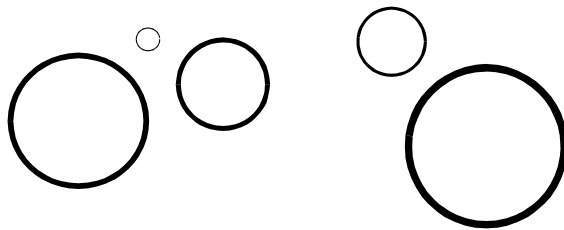
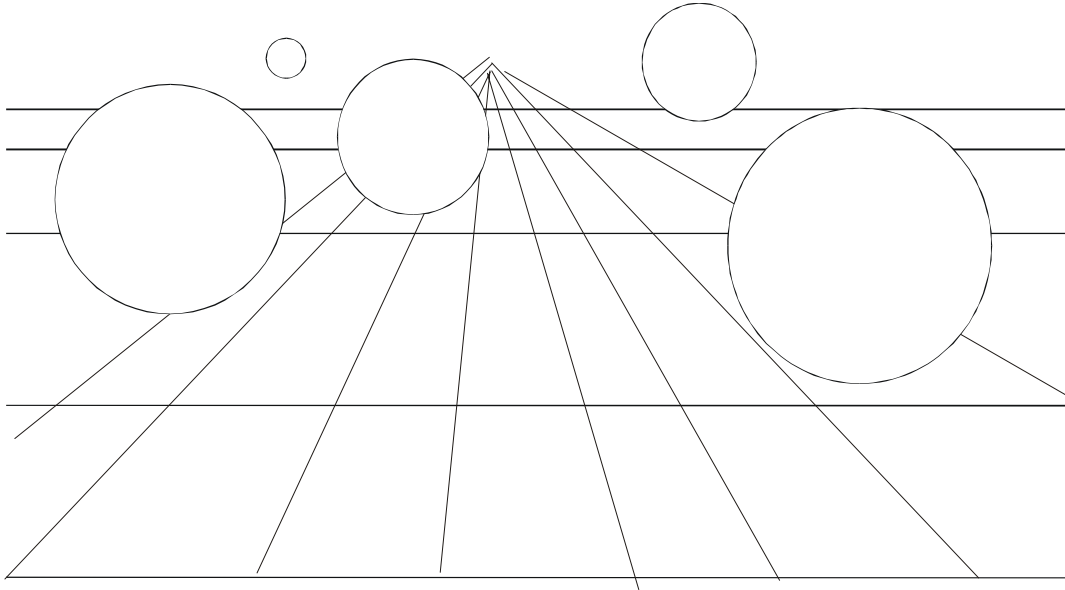

Figure C-1. A collection of different circles.
Figure C-2. Circles that project an illusion of depth.
(1) The most common example of relative size is a series of telephone poles. They are exactly the same size, yet they appear to get smaller the farther away they are from the viewer. When creating a realistic drawing of a series of identical objects, you need to forget that the objects are the same size and focus on their apparent sizes and positions relative to one another. Of course the context in which an object is seen also has a bearing on the illusion of depth. In Figure C-1 the circles appear to be a collection of different sized circles. Figure C-2 gives more of an illusion of depth.